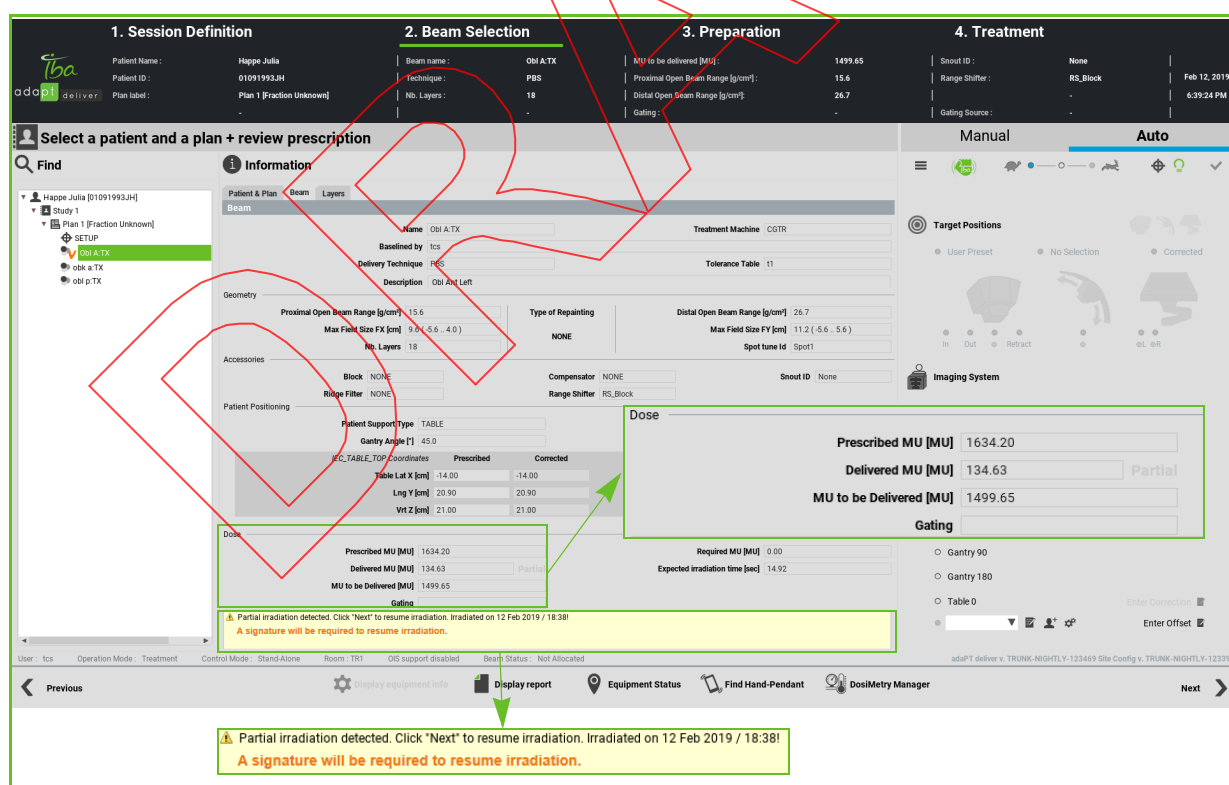

Figure 39-19. Resuming irradiation after partial treatment
2. In the **Dose panel** (Figure 39-19), the user can see that: